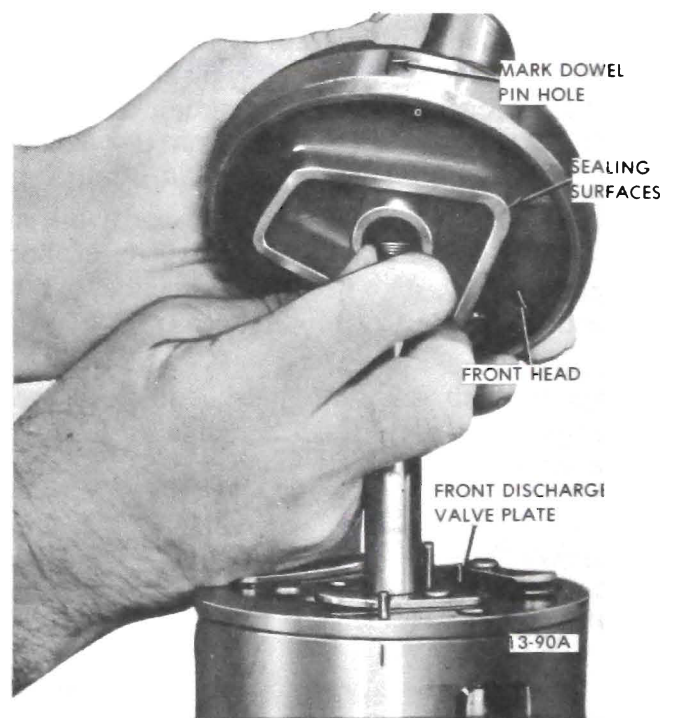

Figure 13-72 Placing Front Head on Cylinder Assembly
3. Coat sealing surfaces on front head (see Figure 13-72) with No. 525 viscosity oil.
4. Mark with pencil on side of front head the location of dowel pin holes (see Figure 13-72), align front head